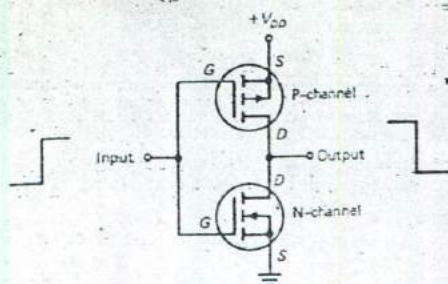

Fig. 11-51 Basic CMOS inverter.
The configuration for a basic CMOS inverter is illustrated by Fig. 11-51. It shows that a complementary pair of transistors is used: one P-channel and one N-channel. This complementary pairing is the source of the term *complementary metallic oxide semiconductor* (CMOS). The transistors are enhancement mode devices. You should recall that enhancement mode transistors are normally off. They are turned on by attracting carriers into the channel region. In the case of the P-channel unit, a negative gate voltage will attract holes and turn the device on. In the case of the N-channel unit, a positive gate voltage will be required to attract electrons into the channel and turn it on. Assume a +5-V V_{DD} supply in Fig. 11-51 and a logic swing at the input of 0 to +5 V. When the input is 0, the P-channel transistor is on because 0 V is 5 V negative with respect to the source of the transistor, which is at +5 V. With the P-channel transistor on, the output will be pulled high, to near +5 V. No current flows in the output when it drives other CMOS inputs. No current flows in the complementary pair since the N-channel transistor is off. Now, assume that the input goes to +5 V. This turns the top transistor off and the bottom transistor on. The output is pulled low, to near 0 V. No current flows in the output, and no current flows
53. Refer to Fig. 11-51. The input voltage is equal to V_{DD} . Which transistor is on? What is the logic state of the output?
54. The transistors shown in Fig. 11-51 are normally _____ devices.